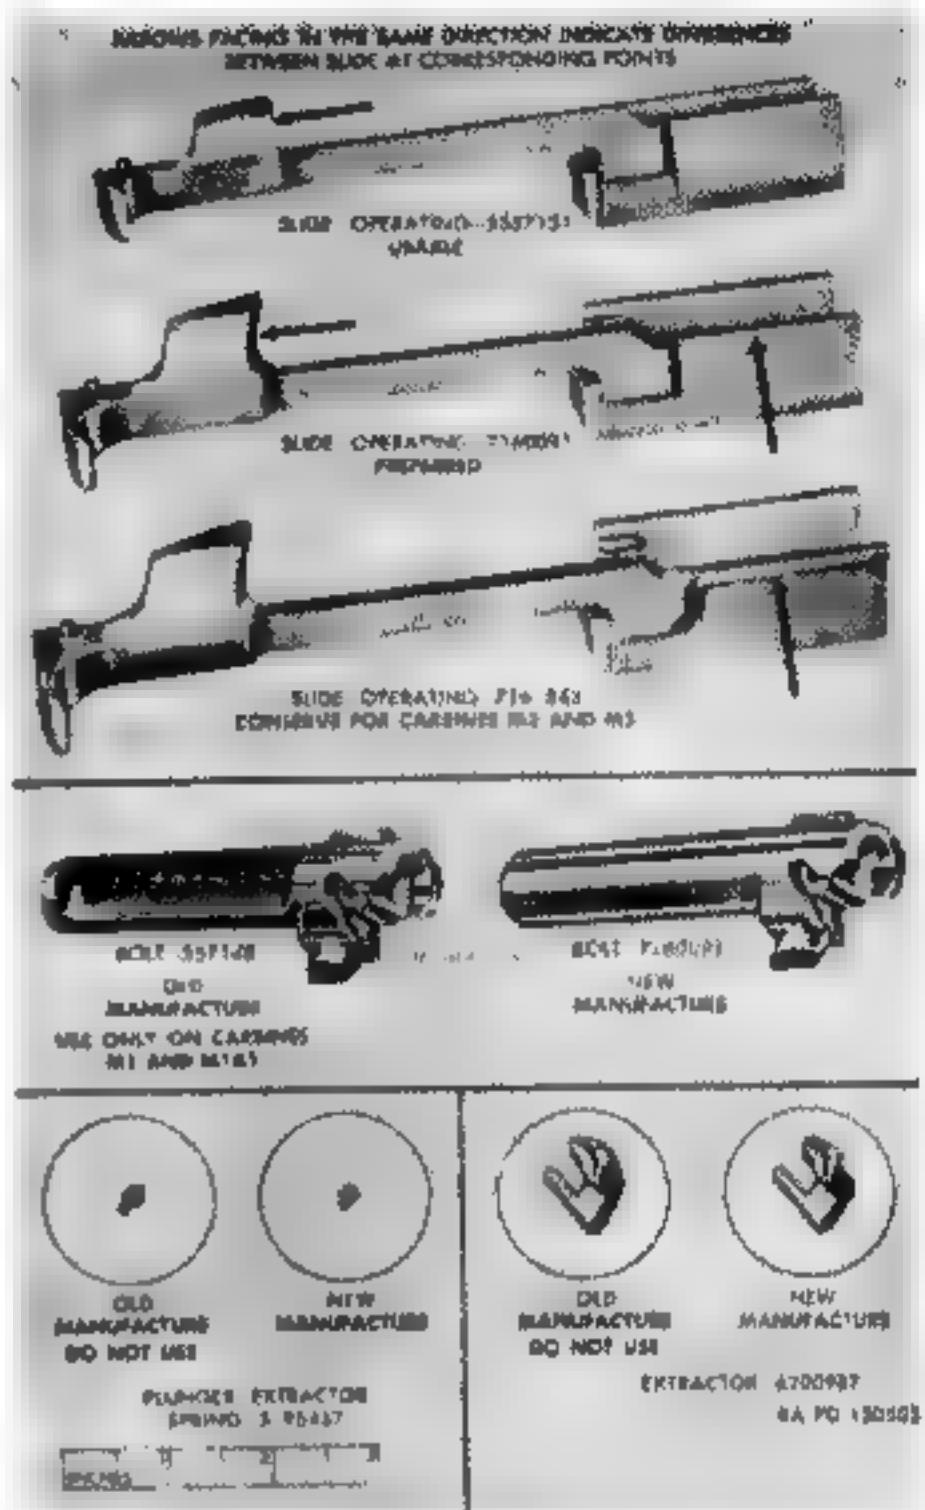

Figure 58. Slide, bolt, extractor and plunger, disengaged otherwise, rear bar is bent or guide lugs are excessively worn.
slide where it contacts piston for levelness. Unevenness at this point may cause malfunction. Check camming surfaces for burrs and wear (Fig. 58). Inspect the operating slide under "black light" for cracks in the areas specified below (DEPOT MAINTENANCE ONLY). Reject slides having cracks around the operating cam, at the junction of the inertial block and arm, and around the disconnector lever cam on M2 type slide 7161843. Check visually and reject operating slides showing breaks around the hole for the operating slide stop. Cracks at this point are acceptable. Use operating slide 5357151 (usable) or operating slide 7160091 (preferred) on carbines M1 and M1A1 until the supply is exhausted, then use 7161843 (Fig. 58). Until the supply of the two former slides is exhausted, conserve operating slides 7161843 for use on carbines M2 and M3.
f. Extractors, with "V" type retaining notch or modified retaining notch, will be replaced and disposed of during rebuild. Use only new type plungers as shown in figure 58 and only previously unused plungers and plunger springs.
i. Check to assure that only full round bolts 7160092 are used in the carbines M2 and M3 (Fig. 58). Bolt 557148 will be used in carbines M1 and M1A1 in so far as practicable in order to conserve supply of bolt 7160092 for use in the carbines M2 and M3.